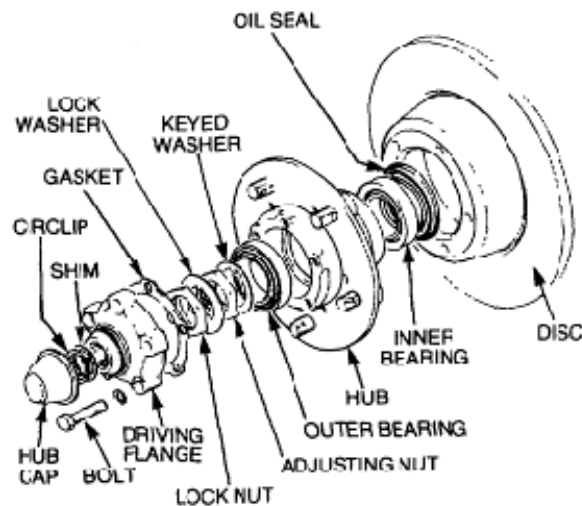

Figure 94 Front Hub and Disk Exploded View
- m. Remove the circlip from the drive shaft (Figure 94) and remove the shim.